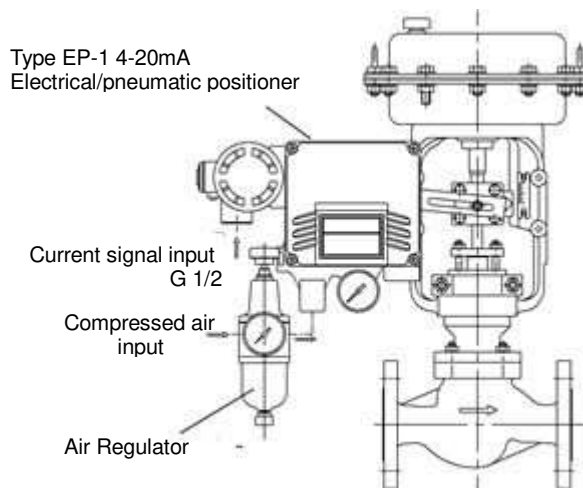

Fig.6
•When purchasing the goods with accessories, it is delivered by the structure with shown in Fig. 6. Please draw the signal cable from the external DC signal connection port shown in Fig.6. Connection way is 2 wire type. Please confirm and do wire the DC 4-20mA with the external signal line.